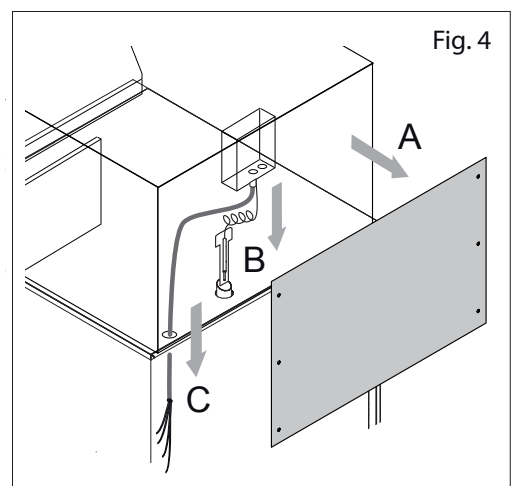

Fig. 4
2. Remove the 6 fixing screws of the back side of the hood (3 each side) and the panel (Fig. 4/A)
3. Release the bulb of thermostat from the fixing system and put it in the steam discharge pipe (round hole – Fig.. 4/B)
4. Release the feeding cable from the fixing system and put it in fairlead (Fig.. 4/C)